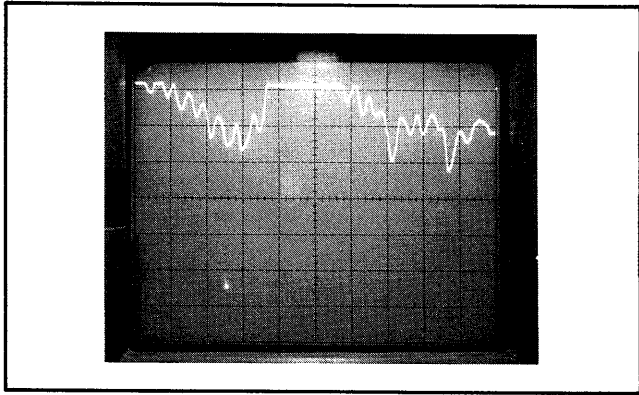

Figure 5-27. F1-F2 Sweep, Unleveled Power
- a trace similar to that shown in Figure 5-27 should be observed.